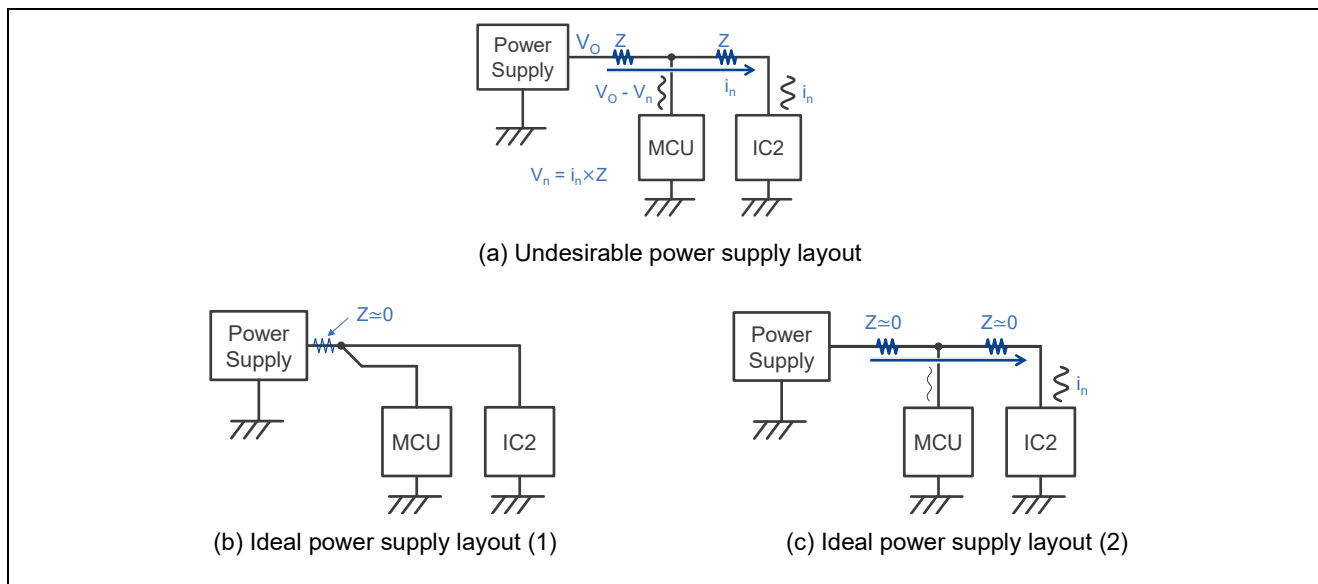

Figure 3-6 Power Supply Layout
(1) Power Supply Layout
If there is a devices or circuit with high current loads or large load fluctuation, and if it is impossible to insert a separate power supply for each, arrange the wiring as shown in Figure 3-6 (b) or (C), so that the power supply line is not shared. In addition, to prevent noise infiltration into the touch sensor from the noise source, it is also effective to separate power supply patterns and weaken the electrical coupling between each power supply line by placing a shield around the power supply pattern.